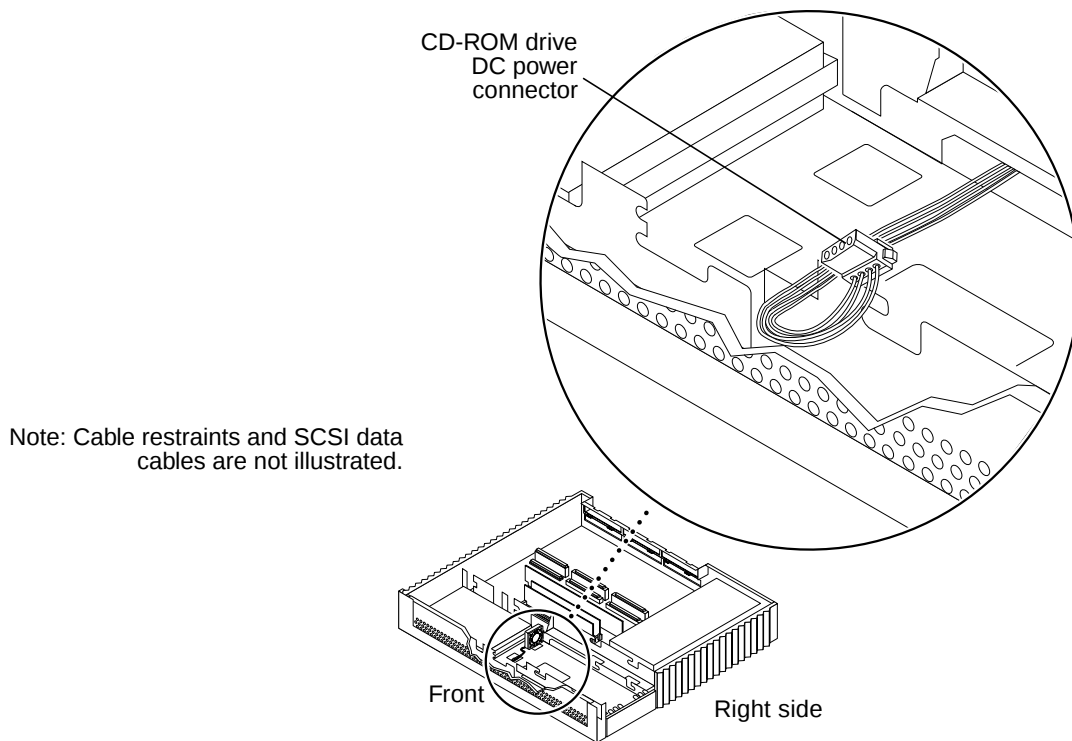

FIGURE 8-22 CD-ROM Drive DC Power Connector Location
1. **Locate the CD-ROM drive DC power connector (FIGURE 8-22).**